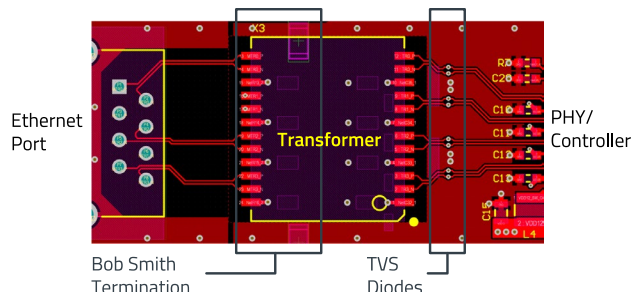
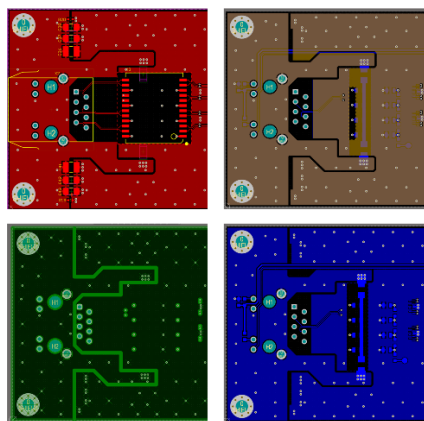
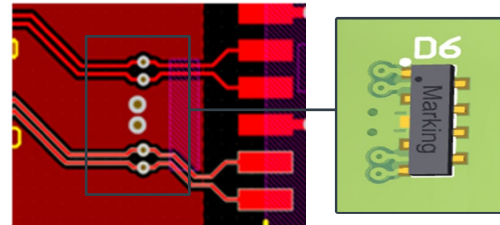

Figure 16: Top layer with positioning of the "Bob Smith" components and the TVS diodes
Figure 19: The four layers of the interface zone in the same section
Figure 20: Layout extract, via pads of the TVS diode array routed into the signal path
The following Figure 16- Figure 19 show the layout regions of the Ethernet interface; according to the figures, the explanation follows.
Layout considerations, with reference to Figure 16 to Figure 19:
1. The TVS diode arrays must be connected directly into the signal path and to GND so as to avoid a voltage drop due to parasitic inductance. An extract of the layout Figure 16 is shown in Figure 20.